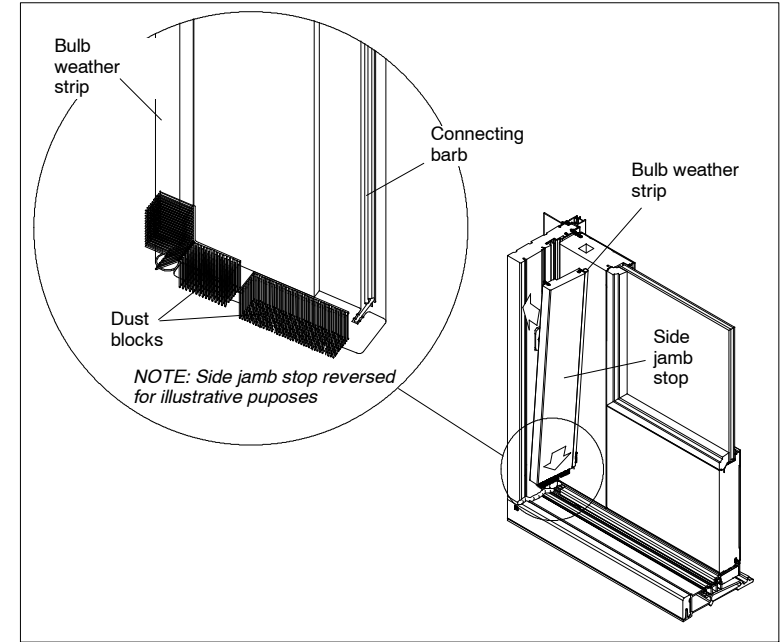

Figure 2
3. Position the side jamb stop with the dust block end facing downward. Slide the bottom of the side jamb stop into place and press into place. See figure 2.